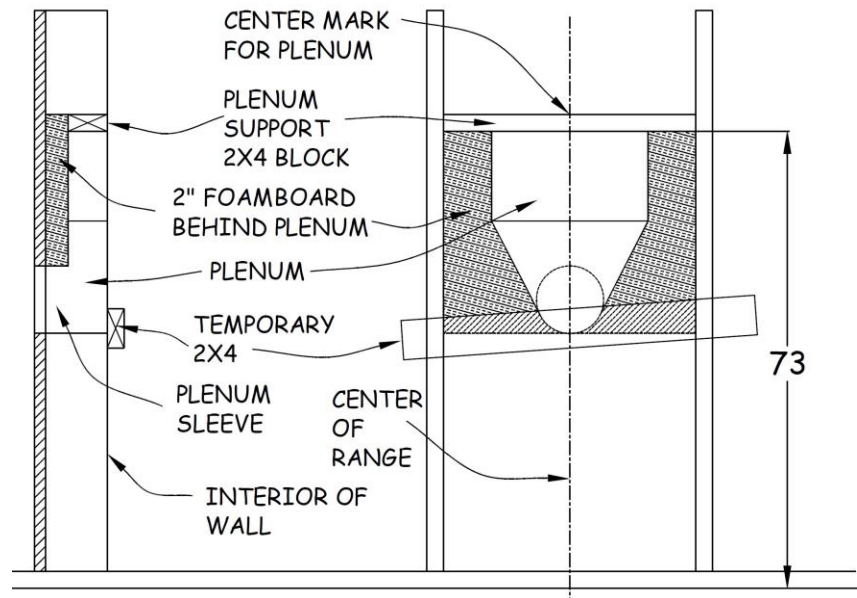

Figure 10-1. Range **Hood** Plenum Location.
1. Cut 2" of foamboard to match the width of the space between the studs and the length from the TOP of the 2x4 supporting the plenum to the bottom of the plenum. Install this foamboard between the 2x4 and the wall sheathing, flush with the top of the 2x4 (see Figure 10-1).